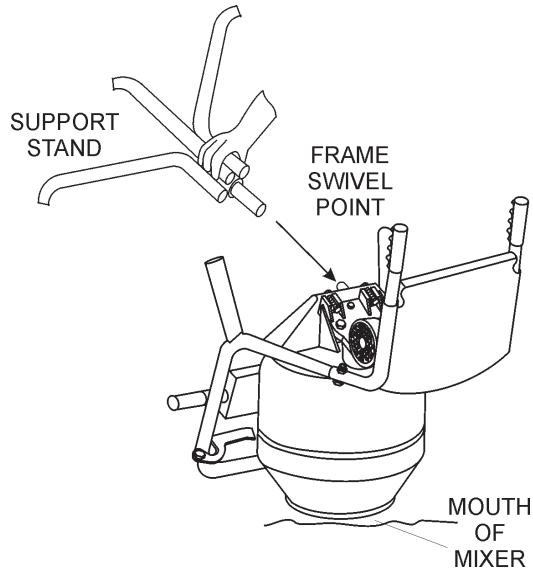

Figure 10. Attaching Support Stand
6. Tip mixer onto mouth as shown in Figure 10, and insert support stand into frame swivel point.